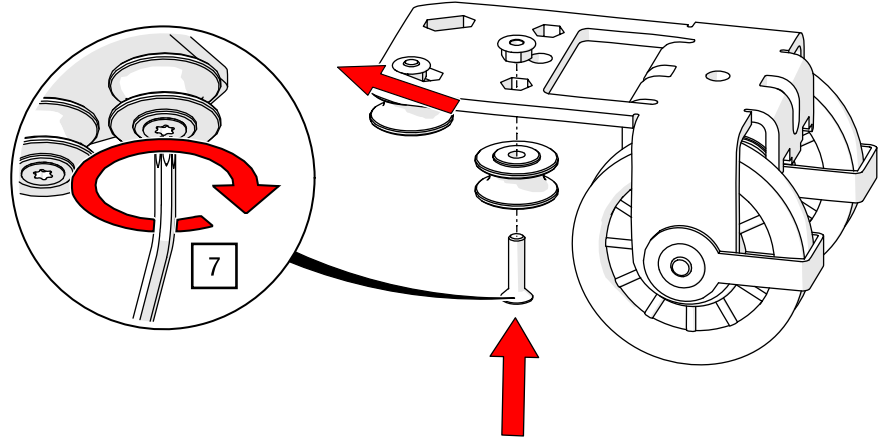

Fig. 93: Top cord operation – Adjusting the head pulley
7. Position the cord guides on the head pulley with a TORX®-key T30 in position for the top cord operation (see Fig. 93).